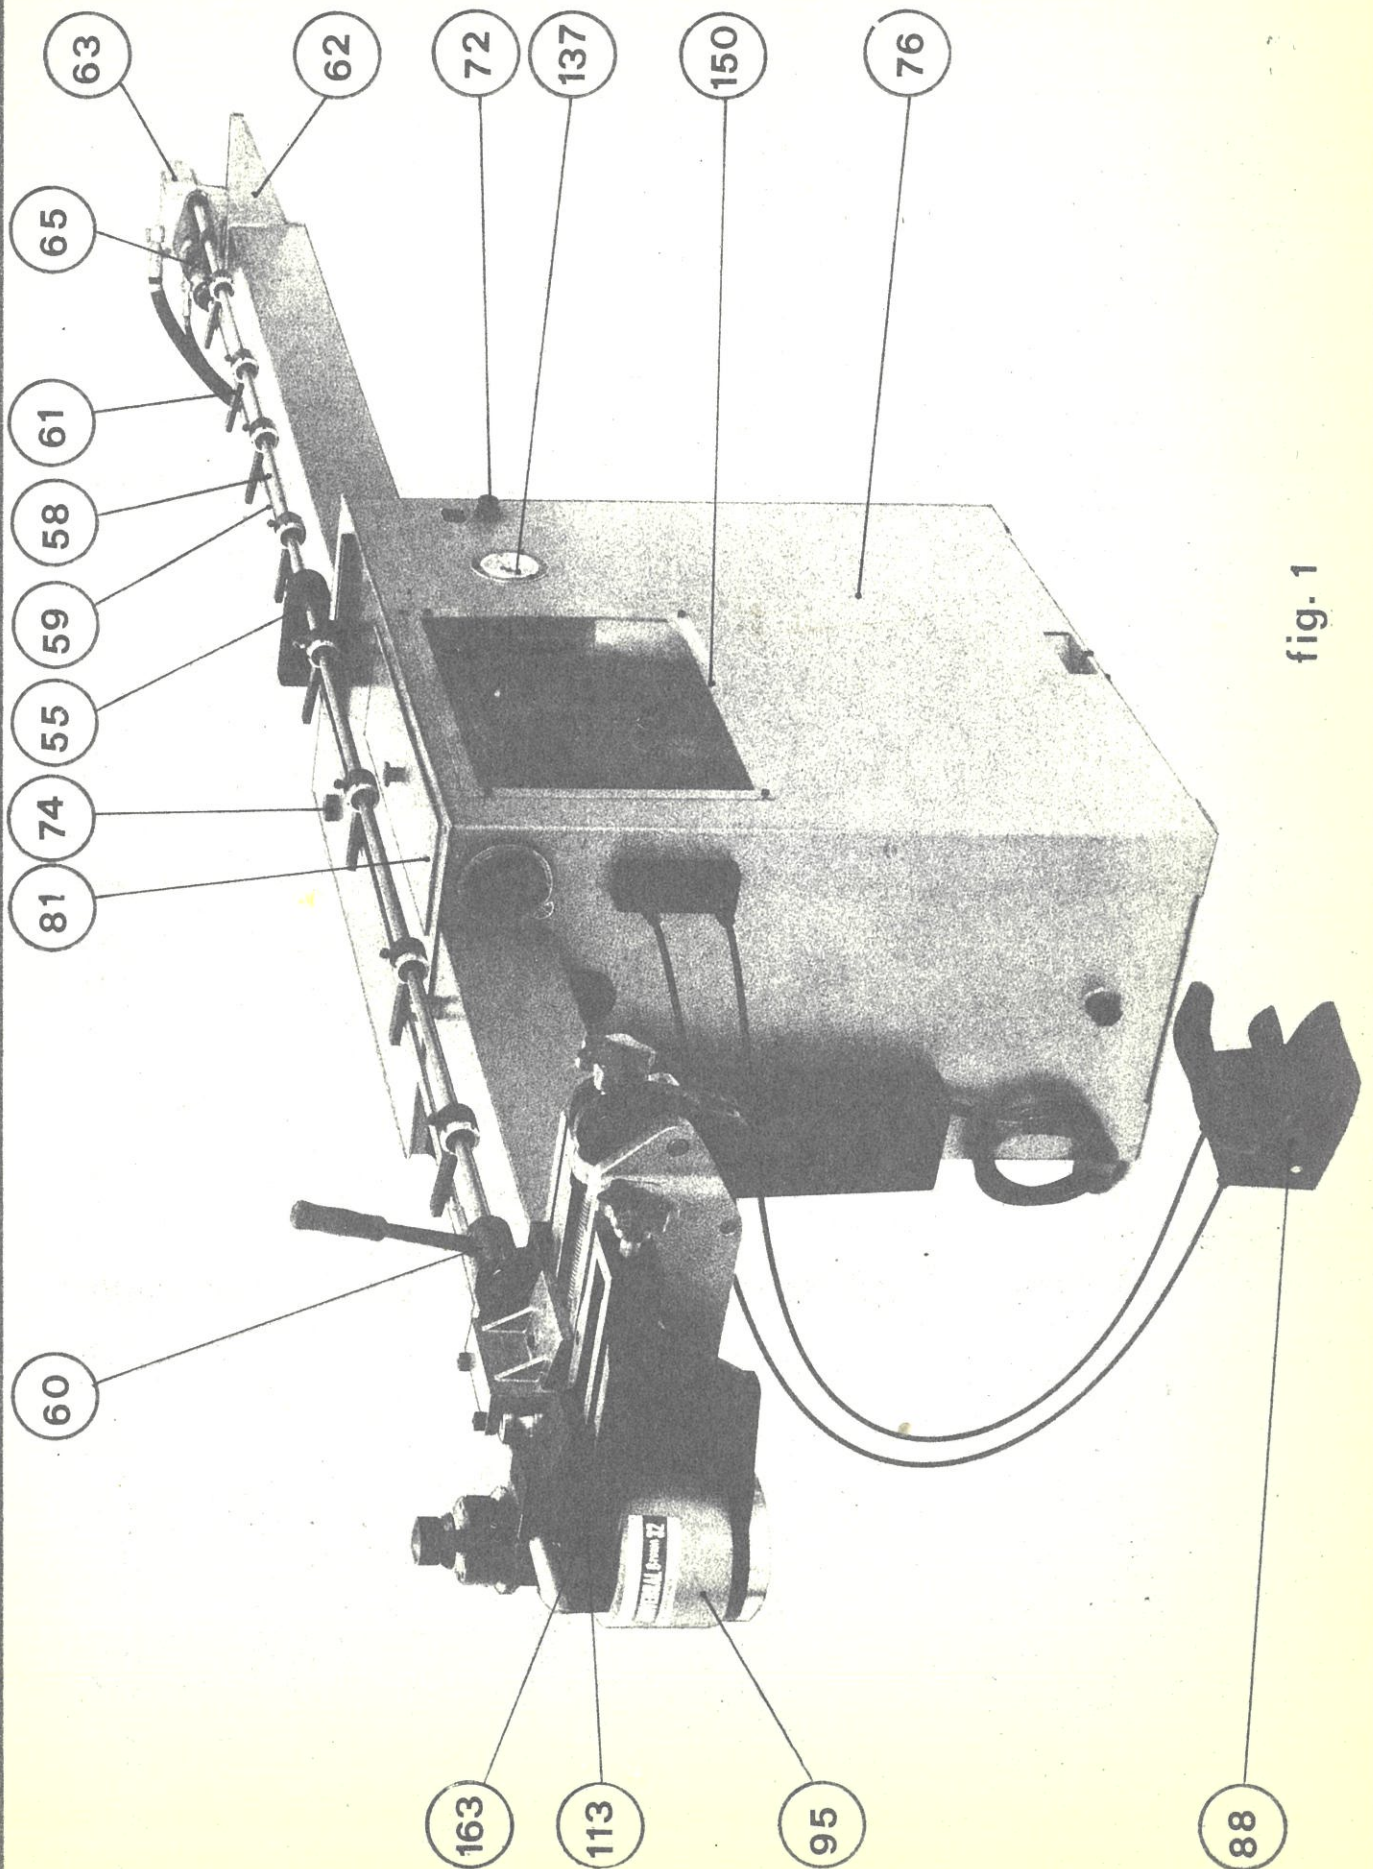

fig. 1
- At this point, the machine is ready for test running. When pedal M is pressed (90), the machine goes through a complete working cycle, as follows:
- The roller carriage (103, Fig. 1)
- The clamp carriage (100) closes and the die (111) is hooked by the tooth (106).
- The arm (96) rotates over an angle of 90°, as preset on the programmer.
- The core is drawn back by the rod (59 Fig. 1).
- The clamp jaw (101) opens and the pin (106) is unhooked.
- The roller carriage opens (103)
- The die turning arm returns to zero (96).
Slip the pipe on the core and push it to the desired position, fixing the longitudinal stops (61, fig. 1) on the rod (58). Check and preset the bends in the programmer drum, as already described under the heading "The Programmer". The machine is now ready for bending operations.